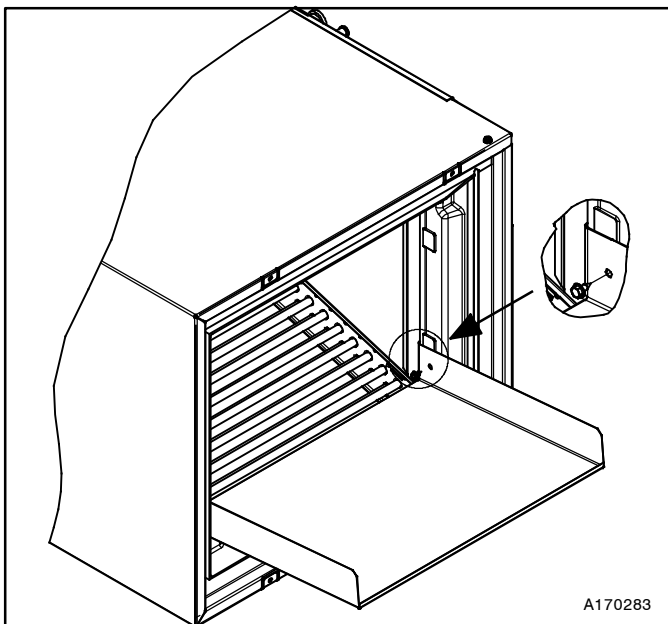

Figure 8 - Condensate Pan Extension Mounting Screws
7. Install included condensate pan extension and two corner screws as shown in **Figure 8**.